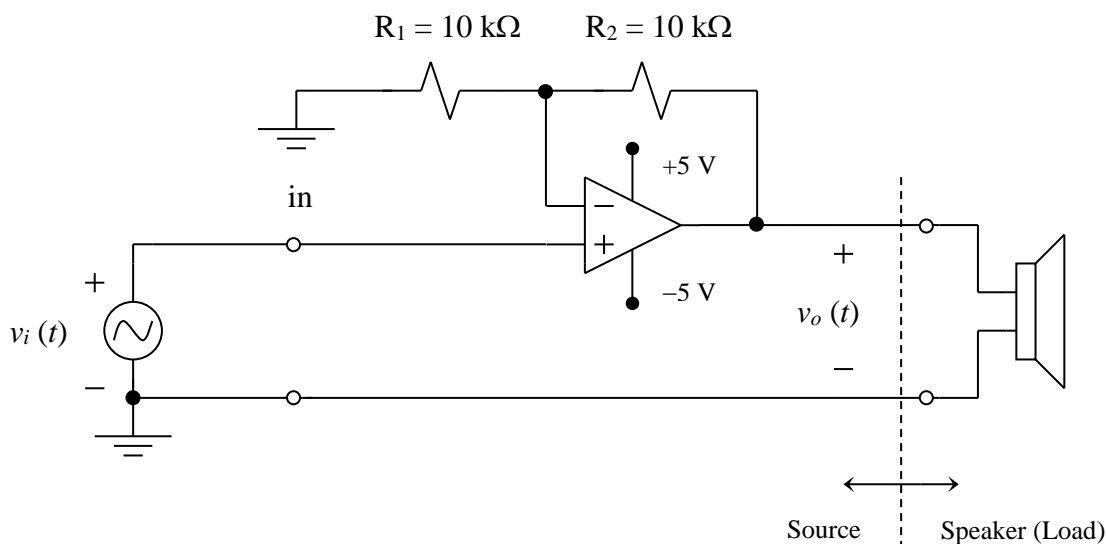

Fig. 6 Noninverting amplifier driving a speaker.
- Modify your non-inverting amplifier circuit such that it resembles that in Fig. 6 (with no speaker attached). Adjust the input voltage $v_i(t)$ to a 200 mV peak-to-peak sine wave at 2 kHz. Confirm the closed-loop voltage gain, A_v , by measurement.